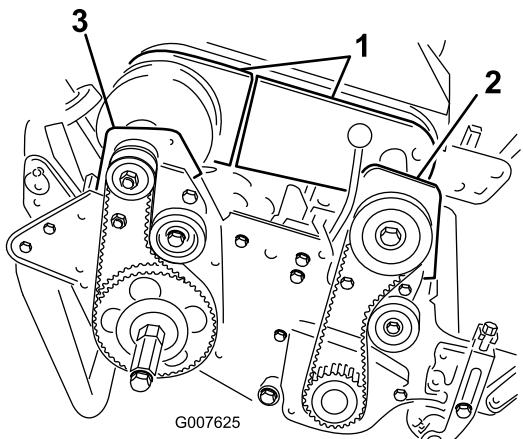

Figure 45
4. Remove the bolts securing the front and rear sections of the differential cover to the differential housing and slide the cover sections away to expose the belt (Figure 45).
6. Remove the 2 bolts and locknuts securing the front clutch housing to the side plate (Figure 45).
8. Remove the 2 bolts and locknuts securing the right rear bearing housing to the side plate (Figure 45).